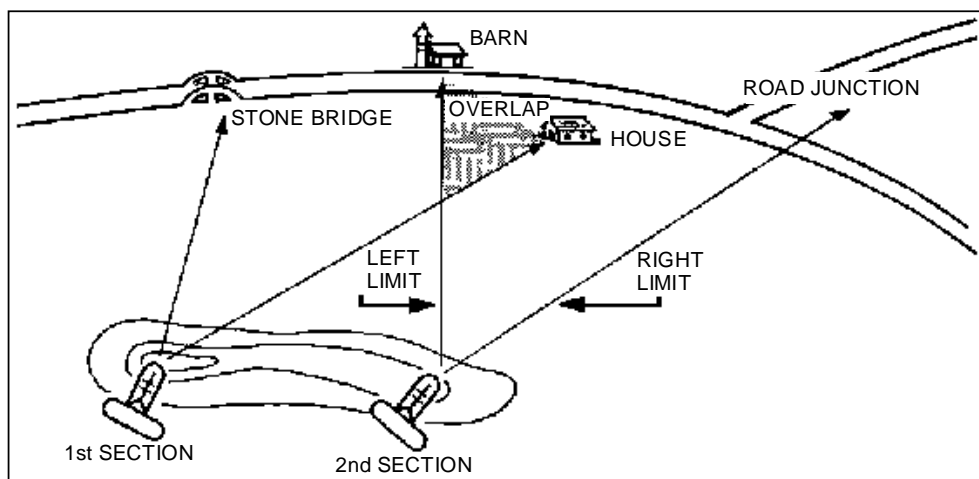

Figure 2. Overlapping sectors of fire.
- (1) Designate sectors of fire using left and right limits or easily recognizable terrain features such as roads, streams, hills, or wood lines. A sector of fire usually extends from a firing position to the maximum engagement range of the TOW. Assign sectors so that each area is fully cover with the correct type of fire. When placed, one section's secondary section of fire should correspond to another section's primary sector of fire (Figure 2).